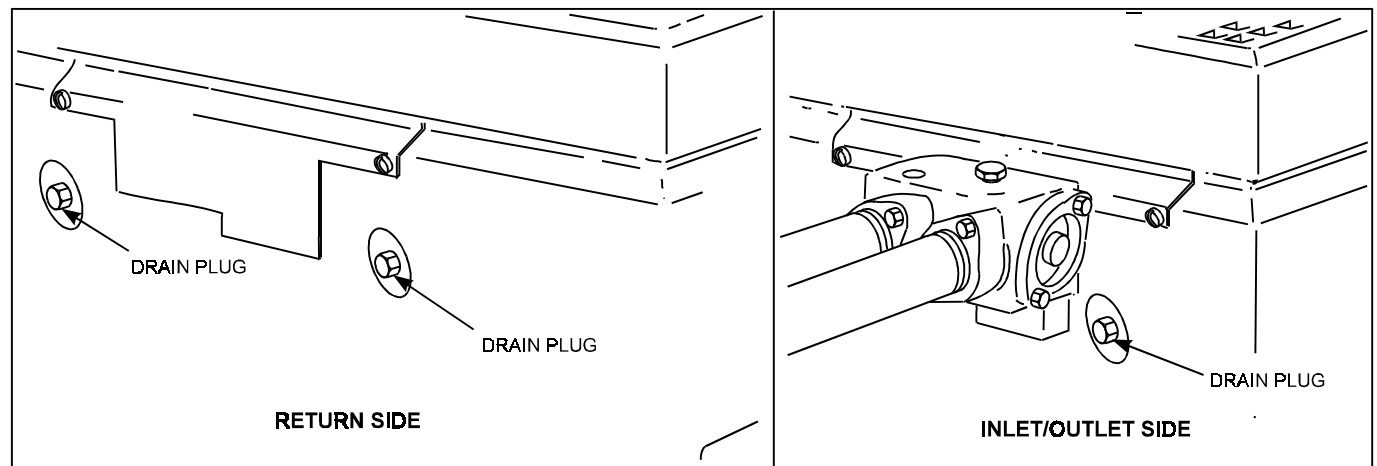

Figure 21. Heater drain locations.
4. Remove the drain plug from the return header (see Figure 21), loosen the drain plug from the inlet/outlet header, and completely drain the heater before the first frost.